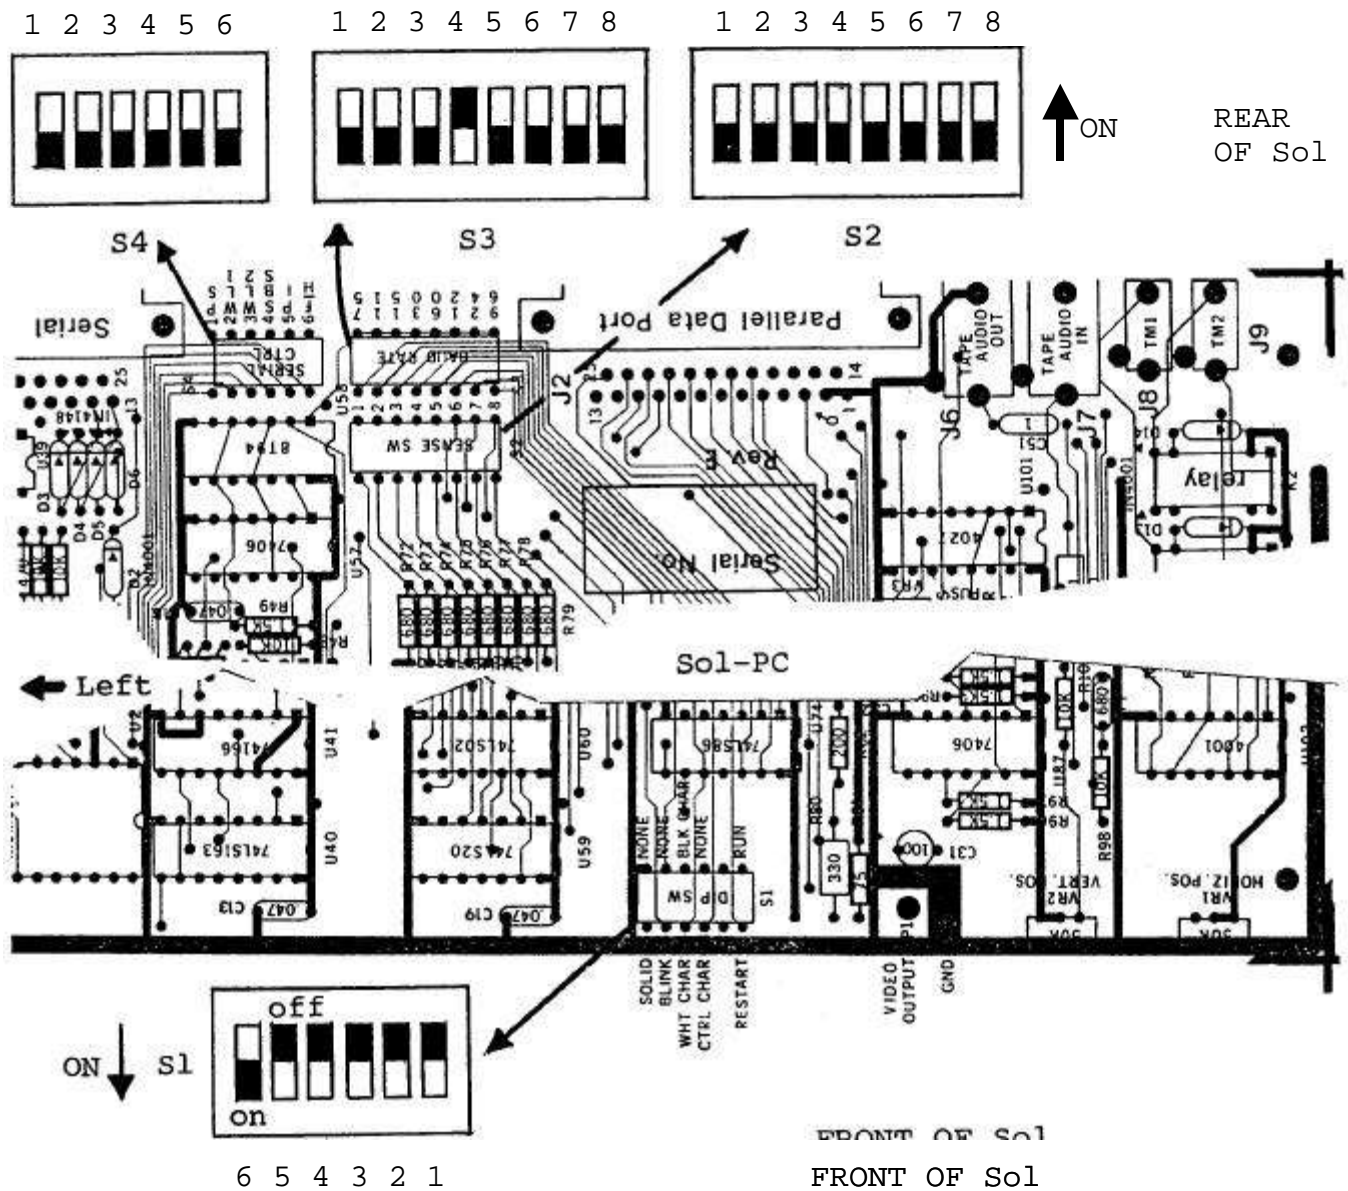

Figure 7-2. Sol control switch settings for terminal mode.
- () Step 7. Set Sol control switches as follows (see Figure 7-2 on Page VII-7):